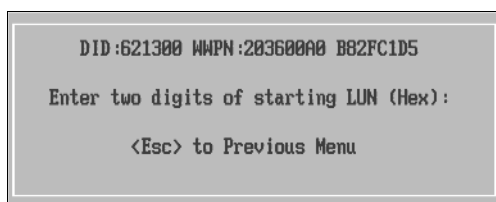

Figure 24-18 Emulex BIOS - Enter LUN
3. You are prompted to specify the starting LUN number to display; a maximum of 16 LUNs are displayed on the screen, so you need to specify a starting point. In our case, we have configured the LUN 0 to be the boot logical drive. Type 00 and press Enter (Figure 24-18).